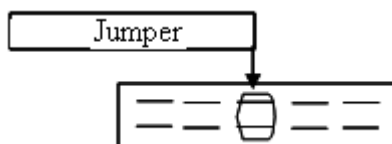

Fig. 7.2. Test mode activation
For activation of Verification (Test) mode you must opening device and set up jumper on the connector (J) contacts as shown in Figure 7.2.